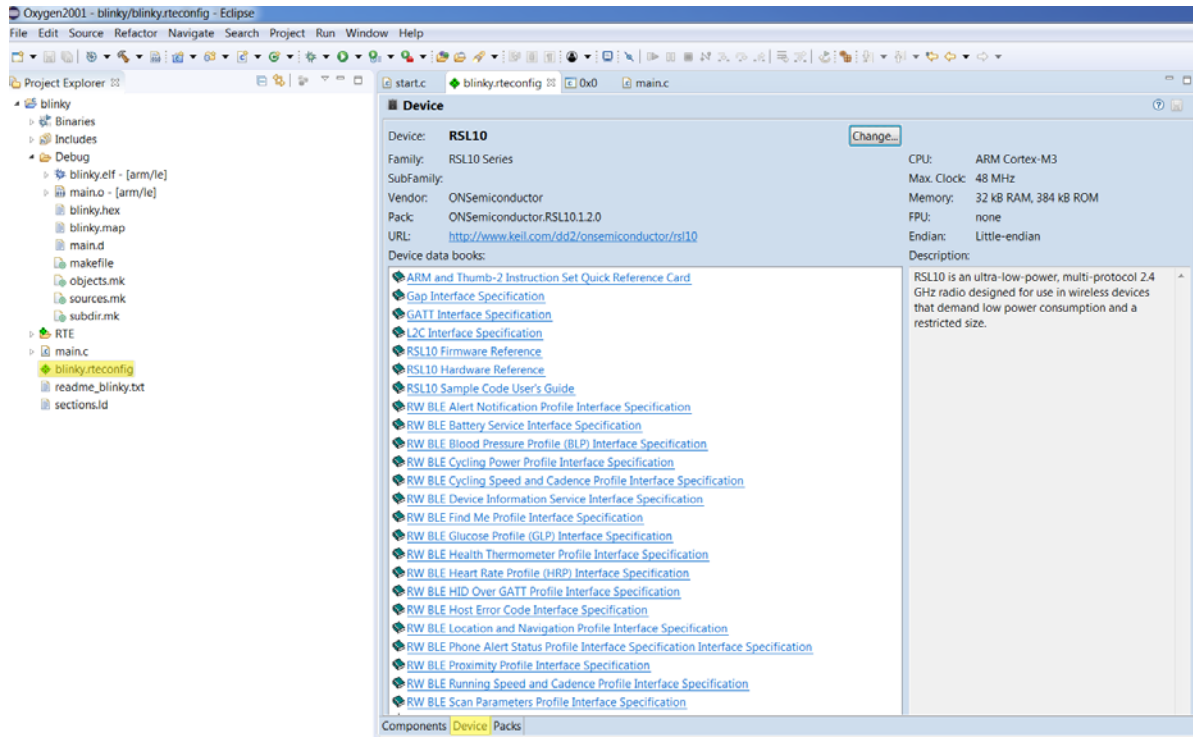

Figure 49. Accessing RSL10 Documentation from the ON Semiconductor IDE
- ON Semiconductor IDE: documentation is accessible through the C/C++ perspective by opening any RTE configuration file, such as *blinky.rteconfig*, and selecting the tab **Device** (see Figure 49 on page 42).